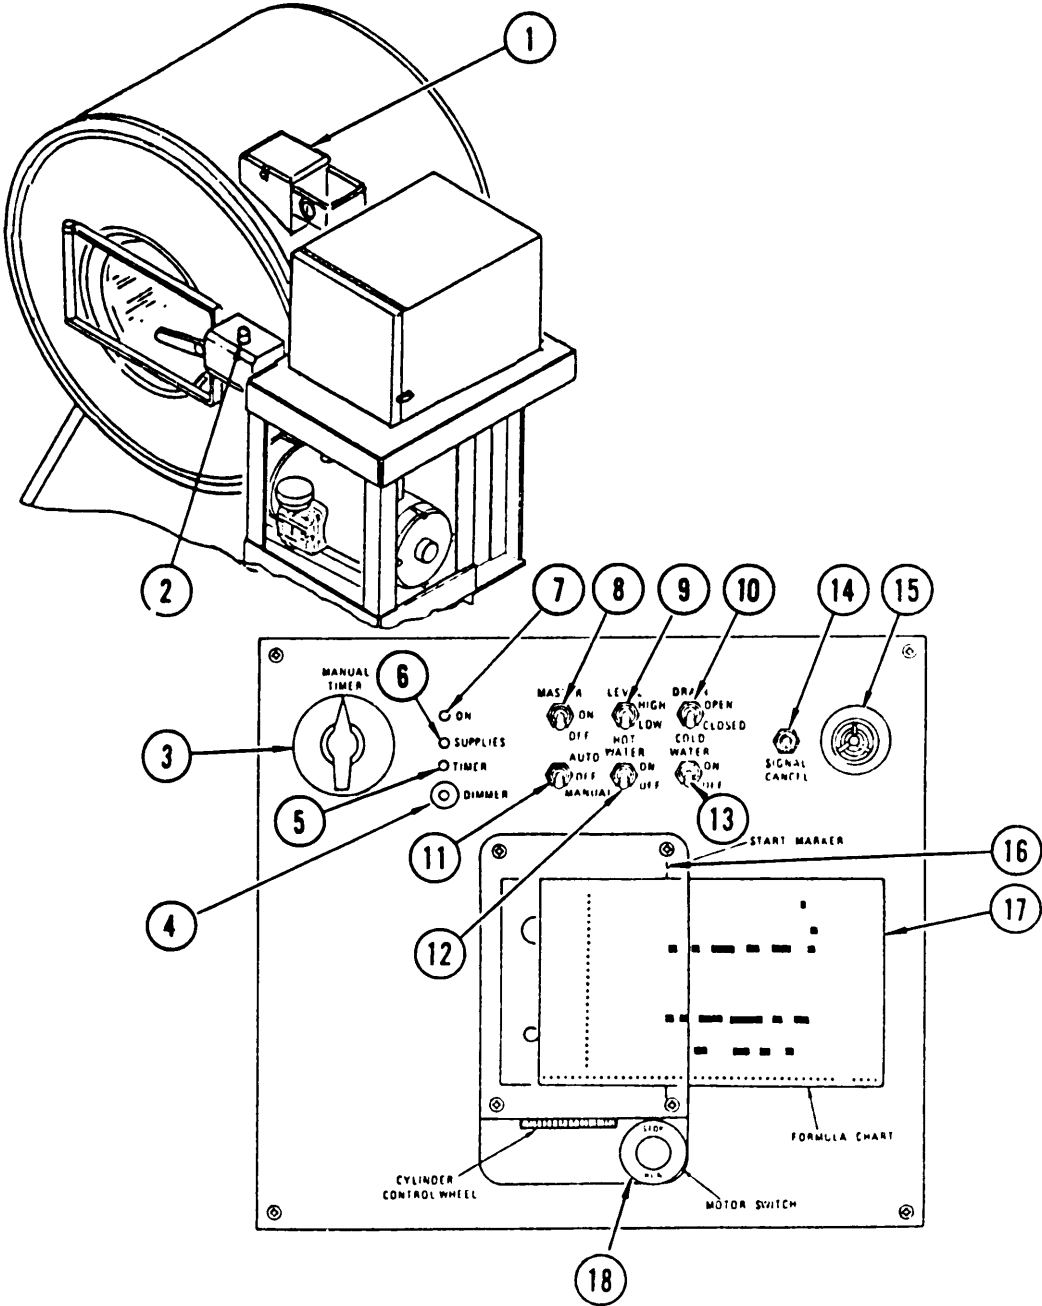

Figure 2-21. Controller.
Master switch (8, figure 2-21) must be in ON with Auto/Off/Manual switch (11) in OFF to unlock door.
- (1) Push unlock switch (2) on door lock cover and unlock the door.
- (2) Load the washer with up to 60 lb. (27.2 kg) of wash. Table 2-3 lists the weight of specific clothing items.
- (3) Check the air tank pressure gage for a pressure of 60 to 90 psi (414 to 580 kPa).
- (4) Refer to FM 10-280 for field laundry washing and decontamination formulas. Select proper formula chart.
- (5) With Run/Stop knob (18, figure 2-21) in Stop position and chart with track assignment to left, insert chart into timer from the right side until first increment of chart is below hairline start marker (16) on the face of the program timer. Turn Run/Stop knob (18) to RUN.